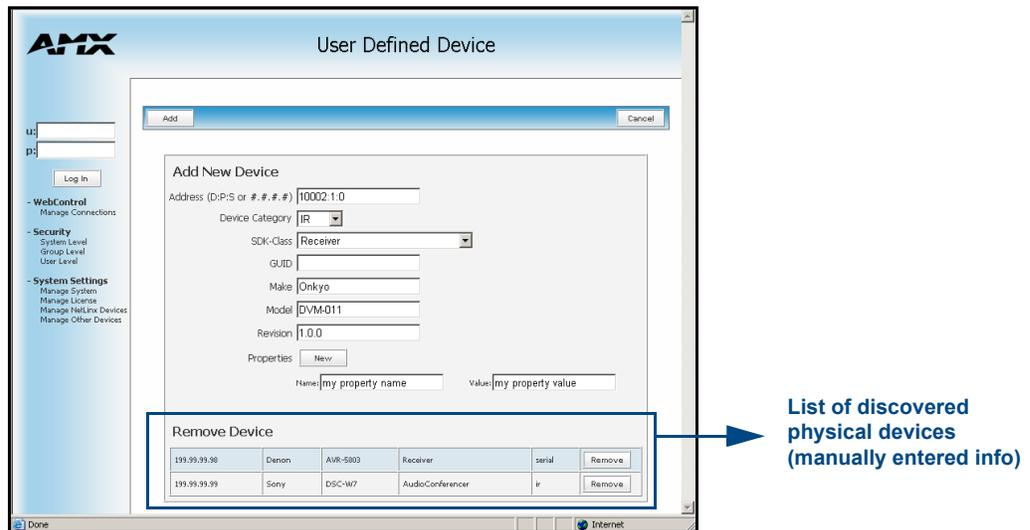

FIG. 72 Add New Device page
This page provides the ability to both add and remove any user-defined devices. Existing user-defined devices are listed at the bottom of the display along with a corresponding **Remove** button alongside each new entry. Although FIG. 72 shows a populated page, by default, all fields are blank and no devices are pre-populated.
- When the **Add** button is selected, the user-defined device is then inserted into the list of discovered physical devices which appears within the lower section of the display (FIG. 72).
- If the device is not DDD enabled and/or cannot be automatically discovered (ex. IR device) the installer must enter the device information into the Master via the User Defined Device Web page under manage Other Devices. (FIG. 72 on page 89)